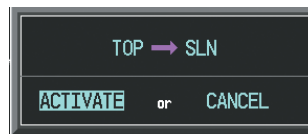

Figure 5-121 Confirm Active Leg
- c) Select the **ACT LEG** Softkey. The confirmation window is now displayed as in Figure 5-121. Note the TOP to SLN leg is actually part of V4.